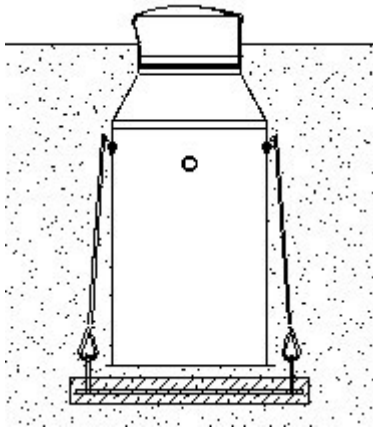

Figure 7
16. In case of high level of ground water, the unit shall be anchored to the foundation of reinforced concrete. Four anchoring options are available (see Fig. 7: a, b). On lowering the anchoring plate, pour about a layer of sand of 10–20 cm thickness and apply a compaction device. Then mount the unit to the anchoring plate.